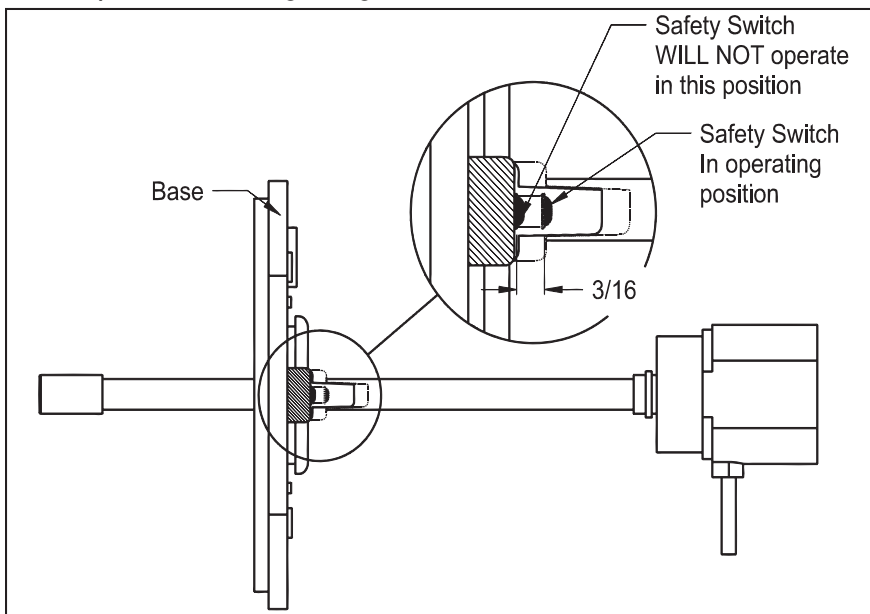

Figure 8
13. If blue glow is not seen, make sure the base is properly installed onto duct. There is a proving switch located on the base that needs to be seated properly onto the duct. Make sure when installing the base the plated washer on the switch is raised approximately $\frac{3}{16}$ ". The proving switch must be fully engaged. (See Figure 8)